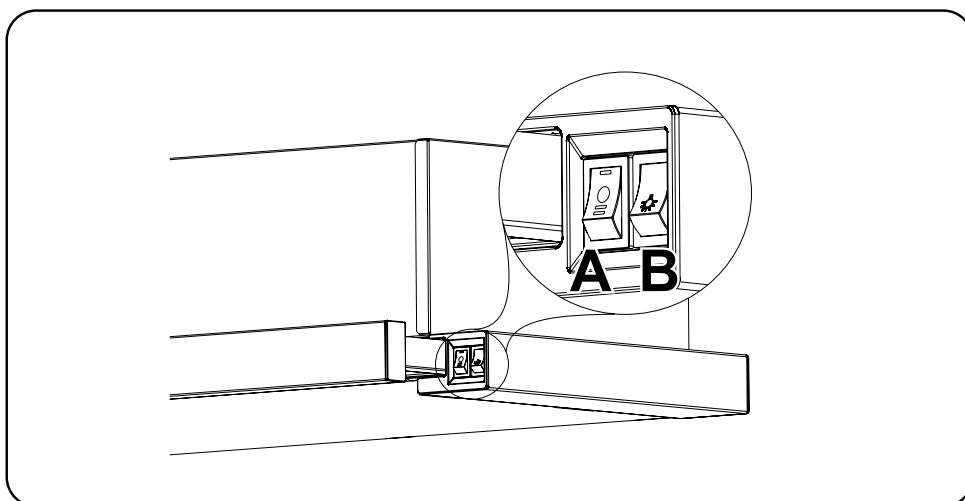

Fig. 19:
1. To operate the device in first level switch the key to  position (Fig. 19/A).
2. To operate the device in second level switch the key to  position (Fig. 19/A).
3. Switch the light on / off button on to turn the device lamp on (/B).  Fig. 19